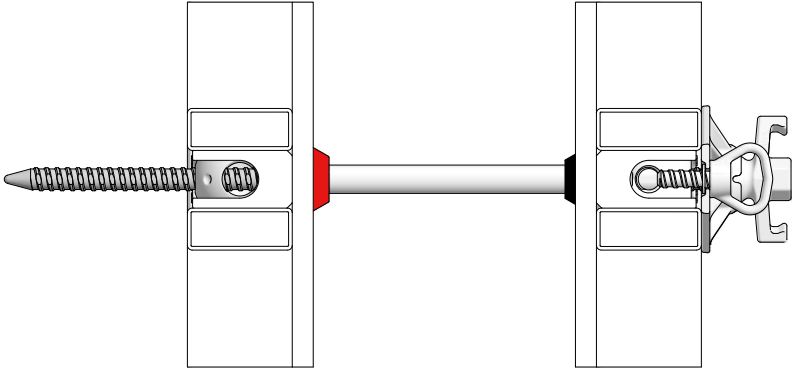

Fig. 16.1
- Single-sided tying with XT tie rod DW 20 and plastic tube (Fig. 16.1)